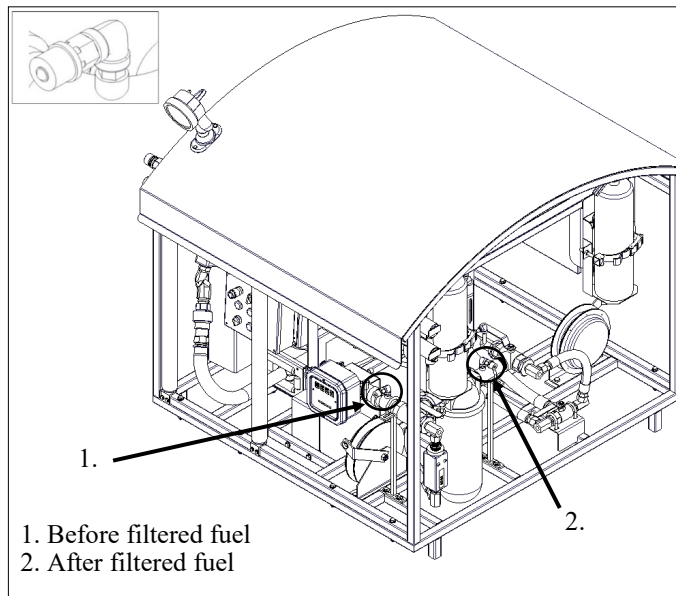

Figure 3-2 Sample Ports
There are two ports used solely for taking for taking fuel samples. The sample ports are located before and after the filter. (See Figure 3-2)
- c. To take fuel before filtering, unscrew the cap to the sample Port (1) shown in Figure 3-2.
- d. After filtering fuel samples can be taken by unscrewing cap to the fuel sample port (2).